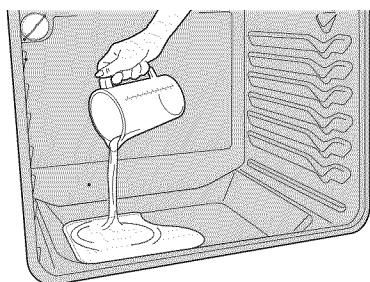

Figure 43: Pour water onto the oven bottom
3. Pour 8 oz (235 ml) of distilled or filtered water onto the oven bottom (See Figure 43). Close the oven door.